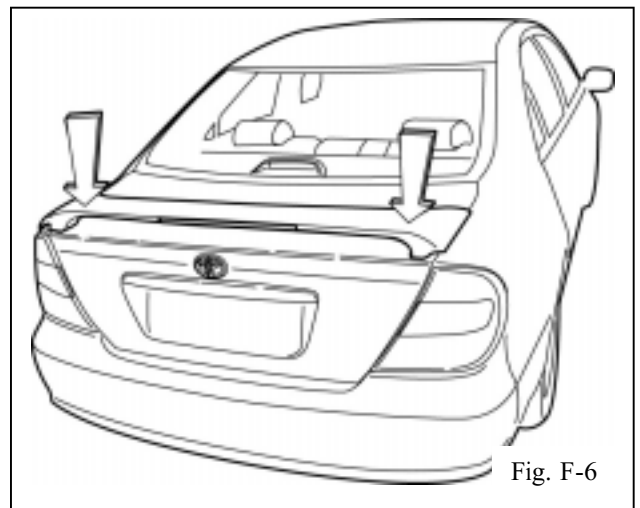

Fig. F-6
-  6. Remove the driver side foam block and lower the spoiler down into place and press down on both sides to fully seat grommets. Continue to apply pressure to ensure complete adhesion of spoiler to trunk lid surface. (Fig. F-6)